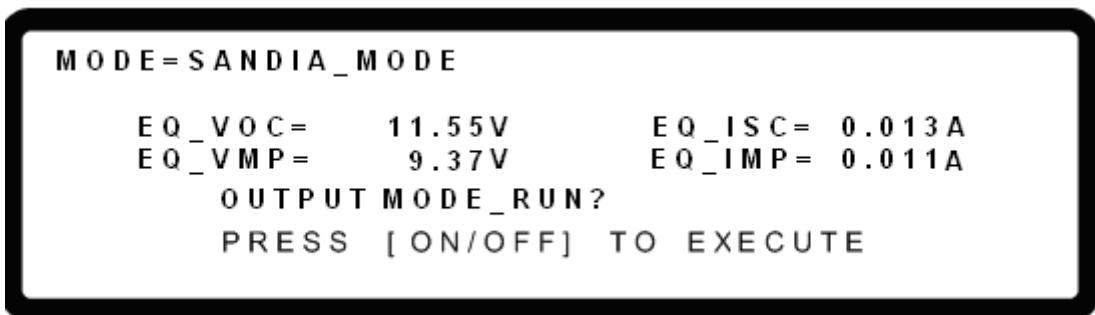

Figure 3-171
9. Press “**ON/OFF**” to display the confirmation window as shown in Figure 3-171.